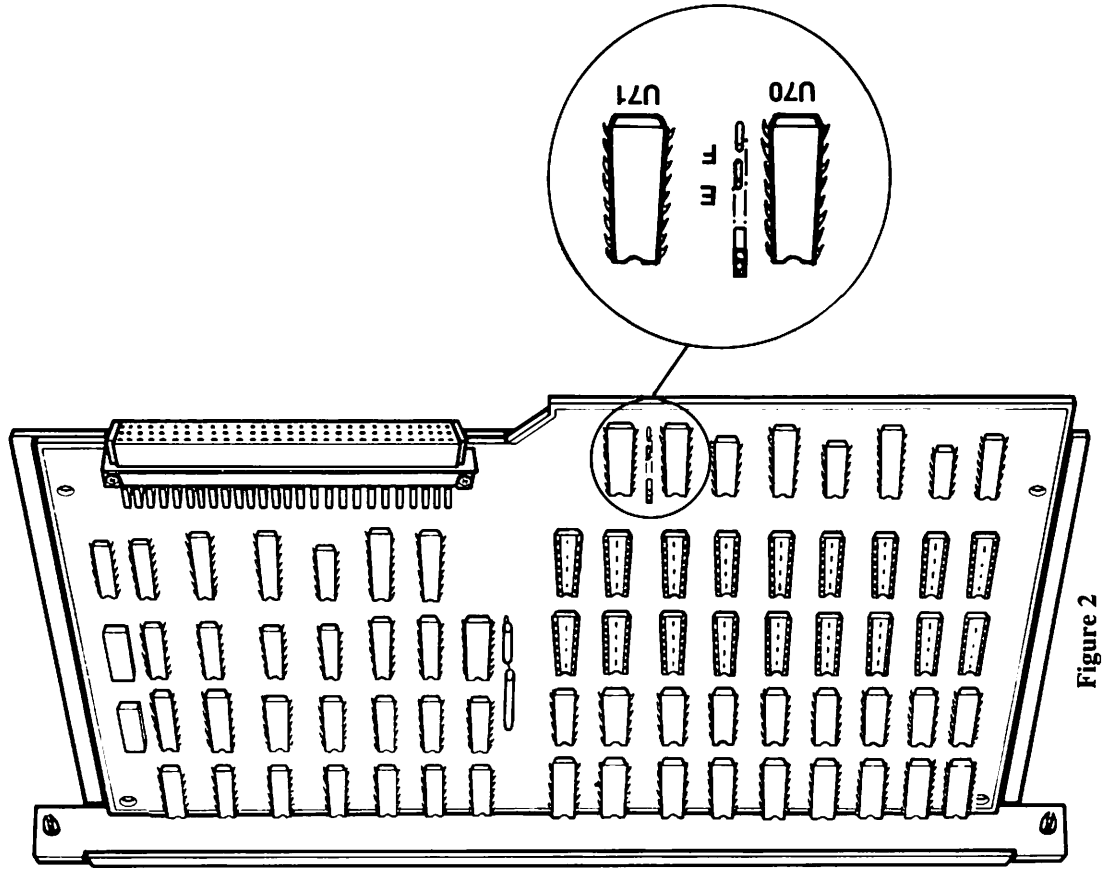

Figure 2
- 4a. Remove the jumper that connects Test Points E and F. This jumper is between Locations U70 and U71. (See Figure 2.)